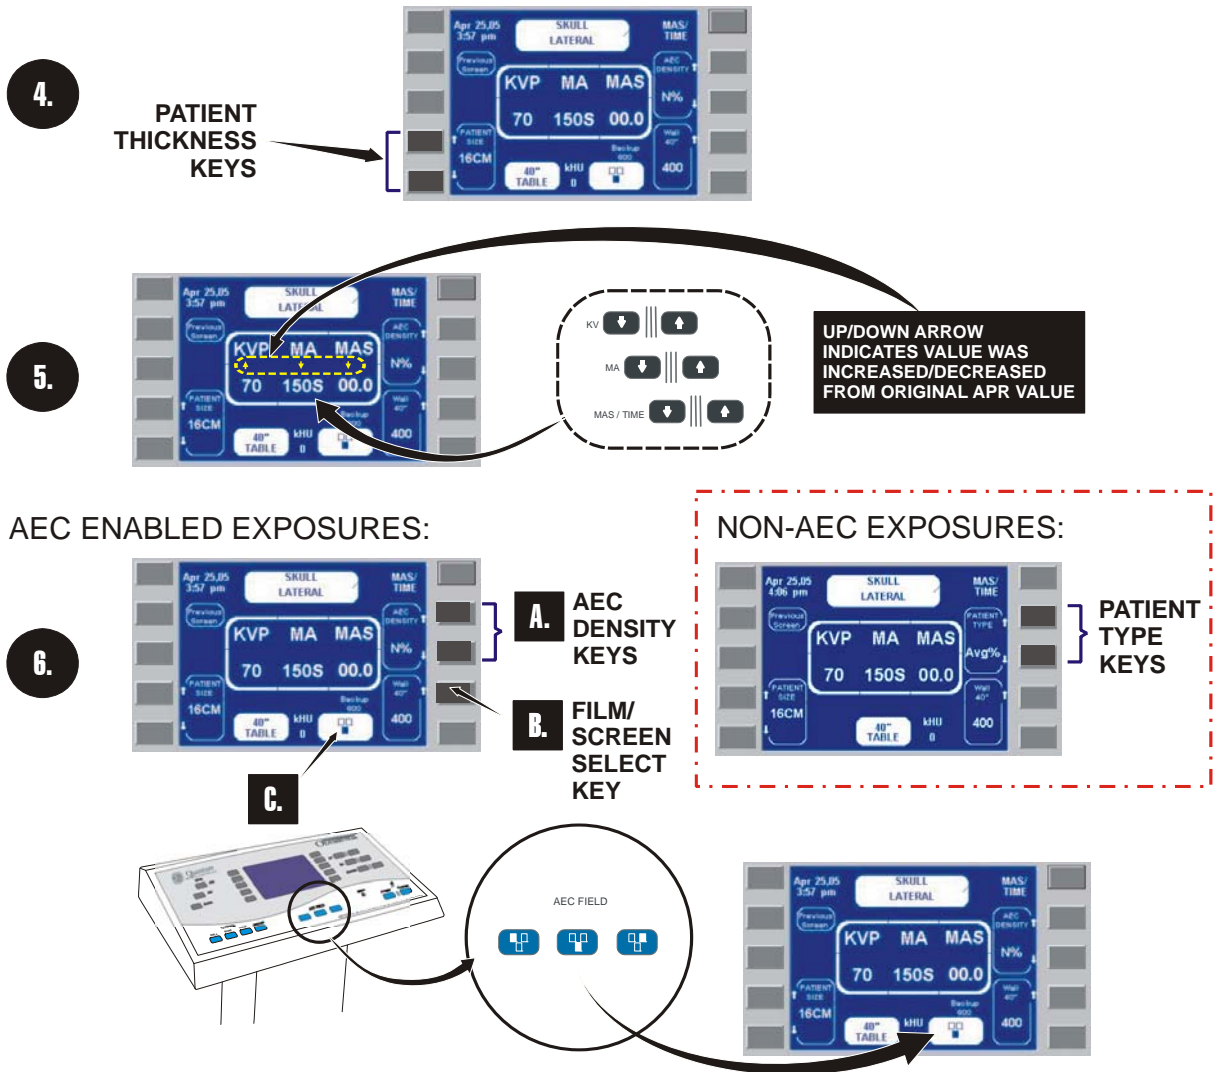

Figure 3-6. Making APR Mode Exposure Selections
3. Verify the technique selections are correct. Modify technique settings using the KV and MA increment/decrement keys as required (see Figure 3-6).